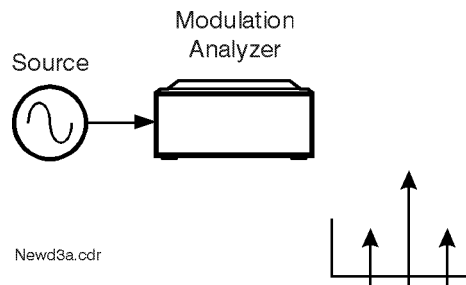

Figure 12-12 Measuring the Carrier-to-Sideband Ratio
- 3 Measure the carrier-to-sideband ratio of the AM at the AM detector's input with an RF spectrum analyzer or modulation analyzer (Figure 12-12). The source should be adjusted such that the sidebands are between -30 and -60 dB below the carrier with a modulation rate between 10 Hz and 20 MHz.